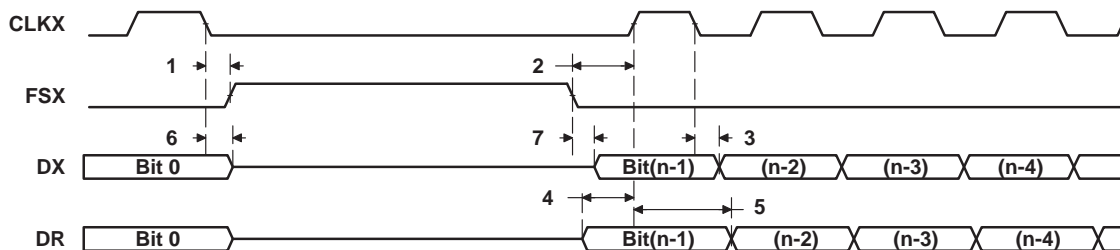

Figure 35. McBSP Timing as SPI Master or Slave: CLKSTP = 11b, CLKXP = 0
timing requirements for McBSP as SPI master or slave: CLKSTP = 11b, CLKXP = 0†‡ (see Figure 35) ('C6201)
switching characteristics for McBSP as SPI master or slave: CLKSTP = 11b, CLKXP = 0†‡ (see Figure 35) ('C6201)
**timing requirements for McBSP as SPI master or slave: CLKSTP = 11b, CLKXP = 0†‡ (see Figure 35) ('C6201B)**
**switching characteristics for McBSP as SPI master or slave: CLKSTP = 11b, CLKXP = 0†‡ (see Figure 35) ('C6201B)**